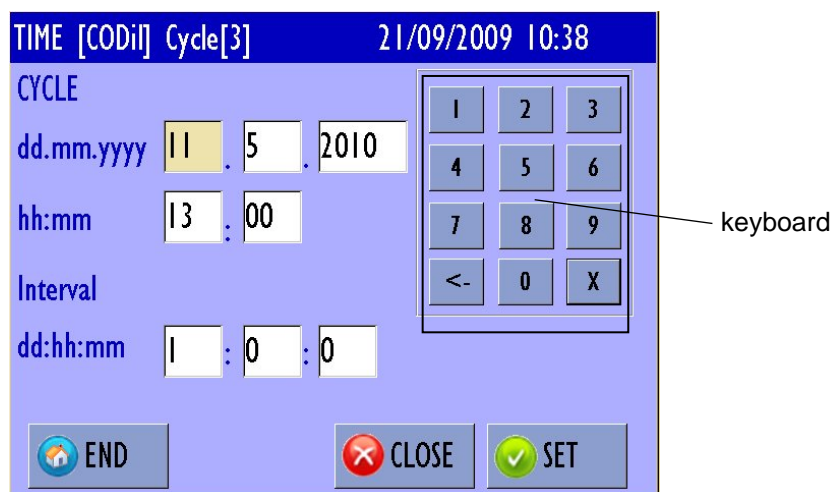

Fig. 9: Timer setting screen
3. To modify the start time of a cycle touch the button in the Start area. Refer to Fig. 9.